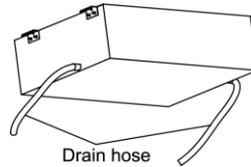
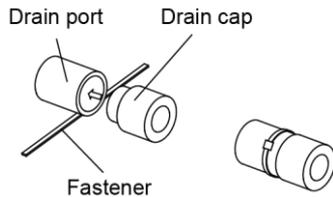

Fig. 4.23
Fig. 4.25
- (5) Use a suitable drain hose, and see Table 3.3 for its size.
- (6) There is a drain port on both the left and right sides. Select the drain port to match the local conditions (Fig. 4.23).
- (7) When the unit is shipped from the factory, the drain port is defaulted to be the one on the left side (electric box side); the port on right side has been plugged.
- (8) When using the drain port on the right side of the unit, reinstall the drain cap to the left side drain port (Fig. 4.25).